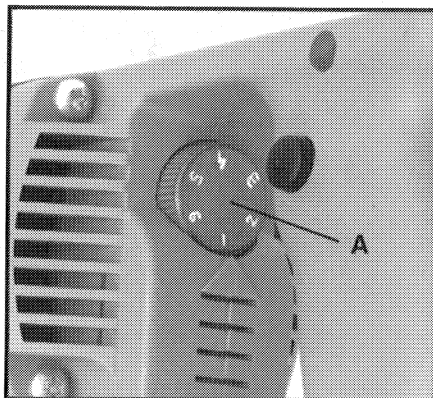

Fig. 2
Speed is adjusted by turning the thumbwheel (A) Fig. 2. Thumbwheel position #1 provides the slowest operating speed (200 RPM) and position #6 the fastest (550 RPM). Speed may be changed while motor is running or while it is stopped.